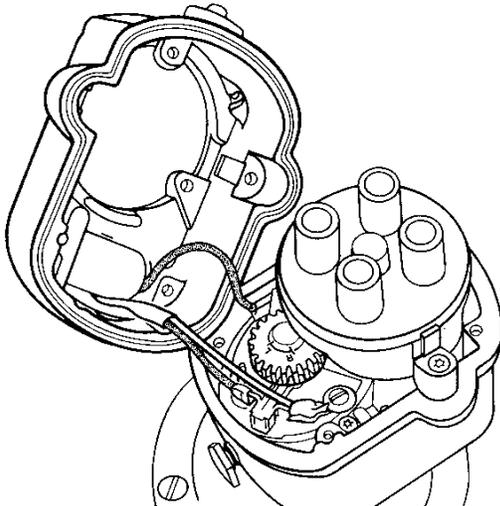

Figure 7.19
- A. Connect the wires to the tachometer contact points. (See Figure 7.19)